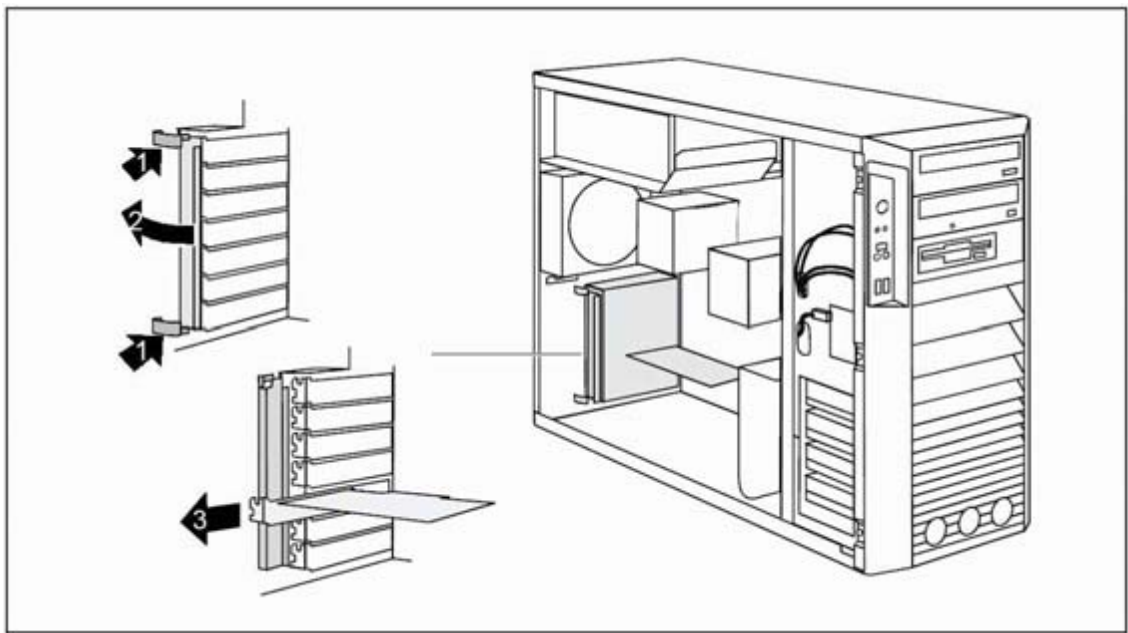

Fig. 52: Replacing a PCI board M450_
7. Press on the clips (1/ Fig. 52 / p. 83) in the direction of the arrow and unhook them from the casing rear panel.
8. Fold open the locking rail in the direction of the arrow (2/ Fig. 52 / p. 83).
10. Remove the board from the slot (3/ Fig. 52 / p. 83)